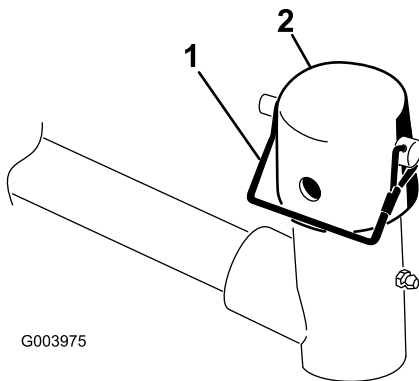

**Figure 9**
**Important:** On the #4 (left front) and #5 (right front) cutting units (Figure 7), use the rod bracket mounting nuts to install the hose guides to the front of the cutting unit tabs (Figure 8). The hose guides should lean toward the center cutting unit (Figure 8 and Figure 9).